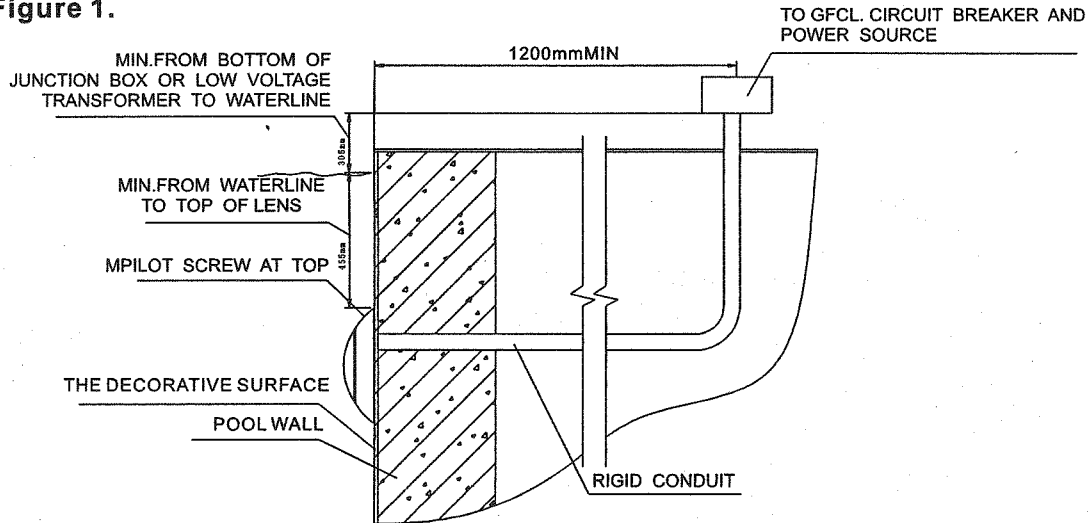

Figure 1
See Figure 1.**
- b. The Junction Box (or 12 Volt models, the low voltage transformer) must be located at least 30.5cm above the water level or at least 10 cm from the ground and at least 120cm from the edge of the pool. See Figure1.